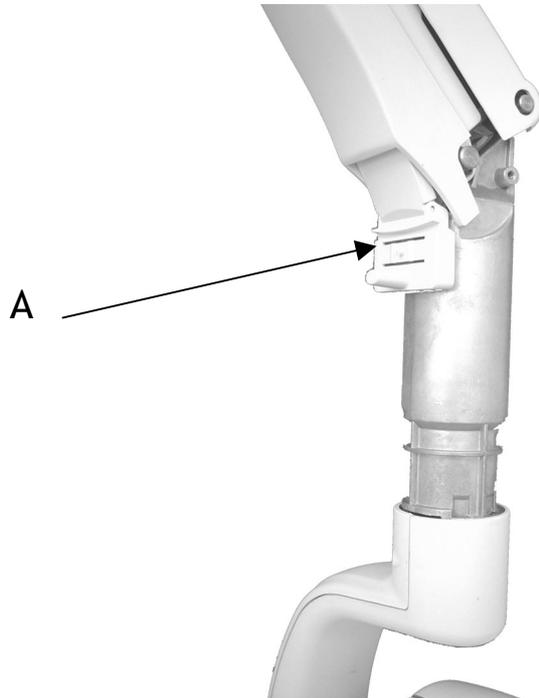

Fig. 18
1. Insert the movable finish (A) between the pantograph-type arm guard and the metal frame (*Fig. 18*)